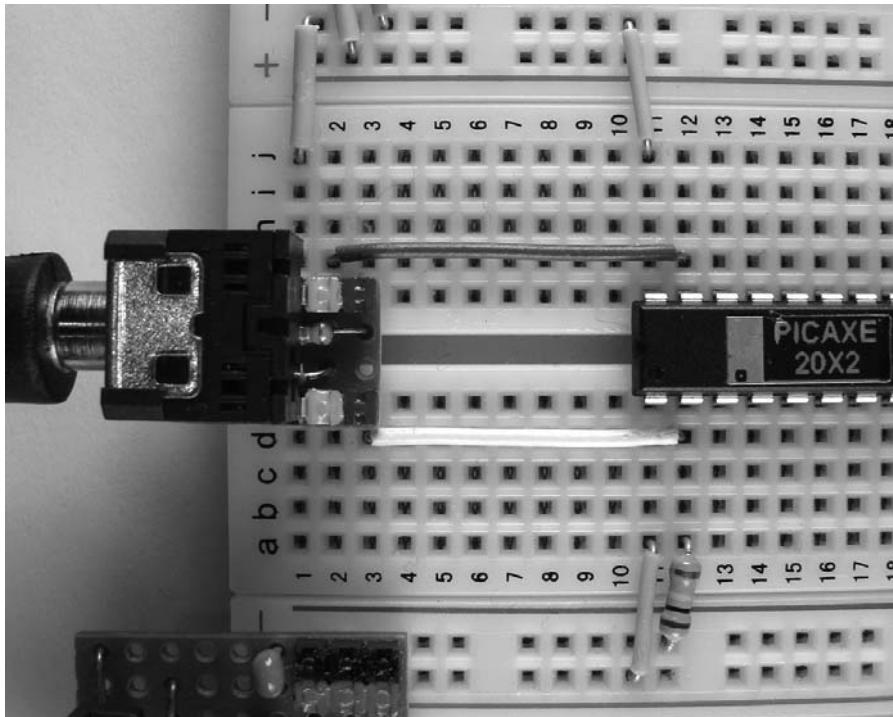
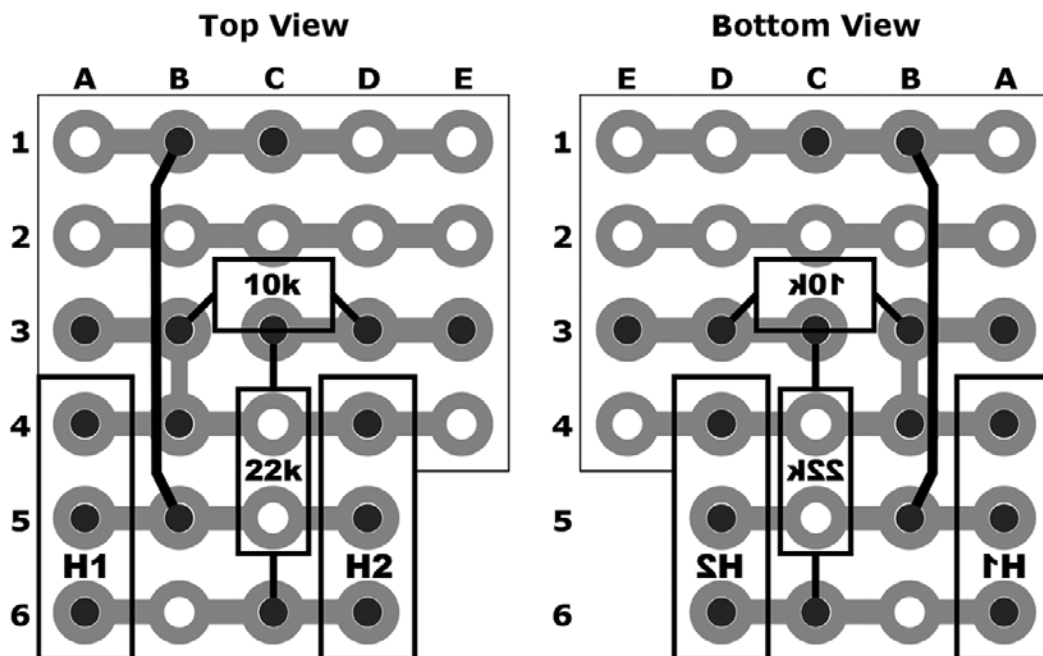

Figure 7-3 Close-up of the USB-PA3X2 installed on the breadboard
Figure 7-4 USBS-PA3X2 stripboard layout
In order to understand the details of constructing the USB-PA3X2 adapter, I think it will be helpful to have a clear idea of how it will be used in our breadboard circuit. Figure 7-3 shows a close-up
Figure 7-4 presents the stripboard layout for the USBS-PA3X2 adapter. The only unusual feature of the layout is that there is a small “notch” in the stripboard—the section that would have contained holes E5 and E6 has been cut away so that the jumper that runs from the adapter to the serout pin on the 20X2 can sit as close as possible to the chip (see the close-up presented in Figure 7-3). The notch is not required for the adapter to function properly; you can omit it if you prefer.
2. (Optional) Cut and sand a small “notch” in the stripboard that removes holes E5 and E6, as shown in the layout presented earlier in Figure 7-4.
8. Insert the 10k resistor leads into holes B3 and D3. Position the resistor so that it sits slightly above hole C3, as shown in the layout (Figure 7-4). On the bottom of the board, bend the lead from B3 to B4 and snip it so that it just reaches B4. Press the lead flat against the bottom of the board; solder the leads at B3, B4, and D3; and snip the lead at D3.
When you have completed the programming adapter, use the photo presented earlier in Figure 7-3 as a guide for assembling your master processor breadboard circuit. We'll be using this circuit throughout Part Two of this book as we develop and test our peripheral I/O devices. For now, you may want to set up a simple "Hello World!" circuit to make sure your USBS-PA3X2 adapter is functioning correctly, or you can try the following experiment, which demonstrates the use of the `20X2 calibadc10` command.